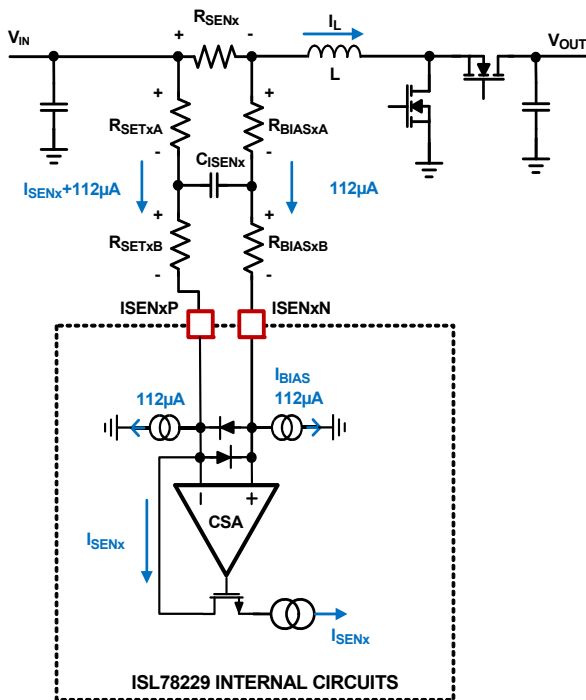

FIGURE 69. CURRENT SENSING BLOCK DIAGRAM
The ISL78229 peak current control architecture senses the inductor current continuously for fast response. A sense resistor is placed in series with the power inductor for each phase, and the ISL78229 Current Sense Amplifiers (CSA) continuously sense the respective inductor current as shown in Figure 69 on page 32 by sensing the voltage signal across the sense resistor  $R_{SENx}$  (where “x” indicates the specific phase number and same note applied throughout this document). The sensed current for each active phase is used for peak current mode control loop, phase current balance, individual phase cycle-by-cycle peak current limiting (OC1), individual phase overcurrent fault protection (OC2), input average Constant Current (CC) control and average overcurrent protection (OC\_AVG), diode emulation, and phase drop control. The internal circuitry shown in Figure 69 represents a single phase. This circuitry is repeated for each phase.
The RC network between  $R_{SENx}$  and ISENxP/N pins as shown in Figure 69 is the recommended configuration. The ISENxP pin should be connected to the positive potential of the  $R_{SEN\_CHx}$  through resistor  $R_{SETx}$ , where in Figure 69  $R_{SETx}$  is composed by  $R_{SETxA}$  plus  $R_{SETxB}$ .  $R_{SET}$  is used to set the current sense gain externally.
Because there is a 112 $\mu$ A bias current sinking to each of the ISENxP and ISENxN pins,  $R_{BIASx}$  with the same value to  $R_{SETx}$  should be placed between the ISENxN pin to the low potential of the  $R_{SENx}$ , where in Figure 69  $R_{BIASx}$  is composed by  $R_{BIASxA}$  plus  $R_{BIASxB}$ .
It is recommended to have  $R_{SETxA} = R_{BIASxA}$  and  $R_{SETxB} = R_{BIASxB}$ , and insert a capacitor ( $C_{ISENx}$ ) between them as shown in Figure 69. This forms a symmetric noise filter for the small current sense signals. The differential filtering time constant equals to  $(R_{SETxA} + R_{BIASxA}) \cdot C_{ISENx}$ . This time constant is typically selected in range of tens of ns depending on the actual noise levels.